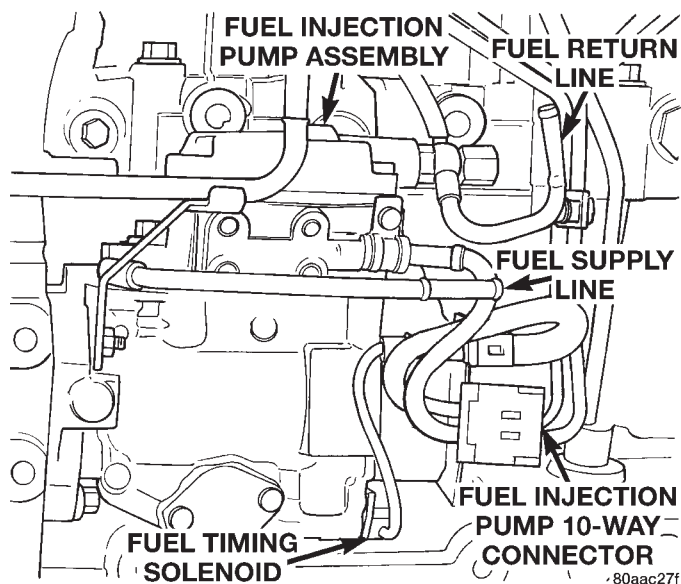

Fig. 34 Overflow Valve and Fuel Shutdown Solenoid
- (1) Disconnect negative battery cable at battery.
- (2) Thoroughly clean the area around the injection pump and fuel lines of all dirt, grease and other contaminants. **Due to the close internal tolerances of the injection pump, this step must be performed before removing pump.**
- (3) Remove the engine accessory drive belt. Refer to Group 7, Cooling System for procedures.
- (4) Remove the generator assembly.
- (5) Remove the rubber fuel return and supply hoses from metal lines at pump (Fig. 34).
- (7) Disconnect the Fuel Injection Pump electrical connector at fuel pump. (Fig. 34).
- (8) Disconnect the main engine wiring harness from the glow plugs.
- (9) Disconnect the four high-pressure fuel lines from the fuel injection pump. Also disconnect fuel lines at the fuel injectors. For procedures, refer to